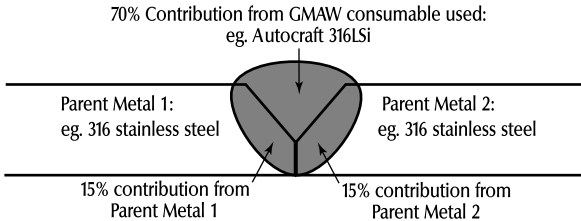

Figure 1. Example of 30% dilution in a stainless steel butt weld using the GMAW process with Autocraft 316LSi welding wire.
i.e. 30% dilution = 15% contribution from parent metal 1, + 15% contribution from parent metal 2, see Figure 1 below.